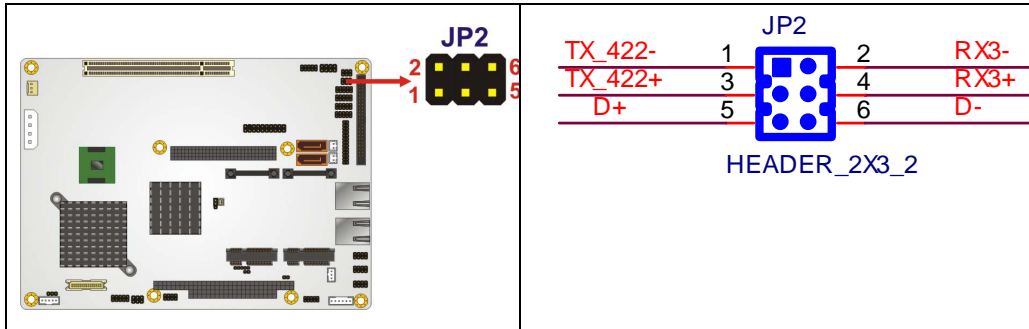

Figure 4-21: COM 3 RS-422/485 Connector Pinout Locations
- CN Location:** See Figure 4-21